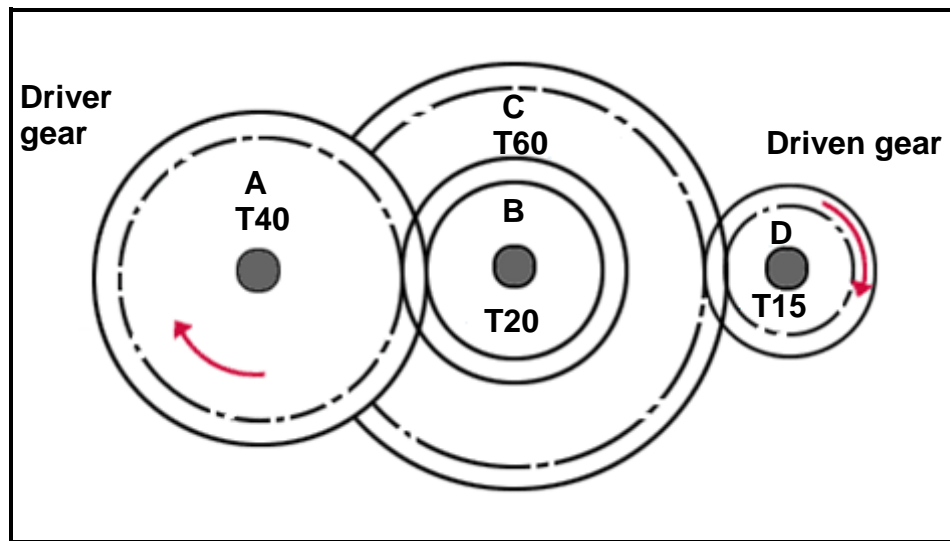

FIGURE 1.5
1.16 What is the gear ratio of the gear system in FIGURE 1.5 below?